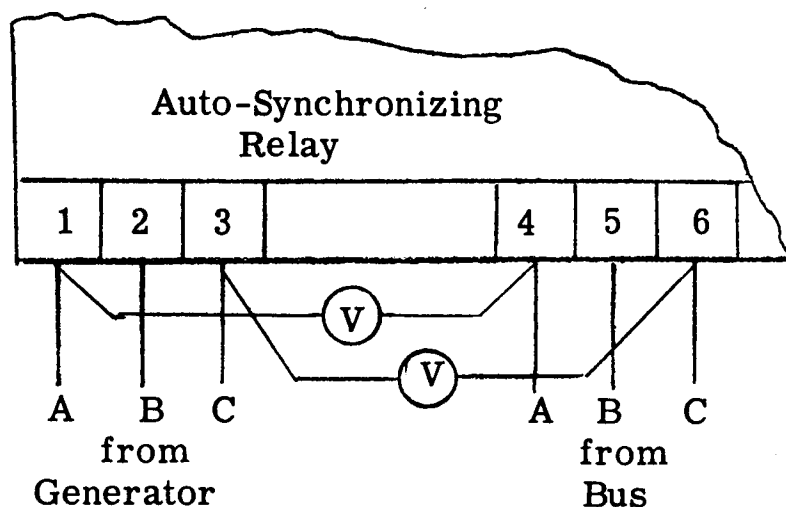

FIGURE 2-5: PHASE ROTATION TEST SET-UP
2.5.1.2 A sample test for correct phase rotation is to connect two AC volt-meters (+3% accuracy is acceptable) as shown in Figure 2-5, and observe that both meters indicate increasing or decreasing voltage simultaneously. If one meter reading increases while the other decreases, the phase rotation is incorrect and the connections must be changed.